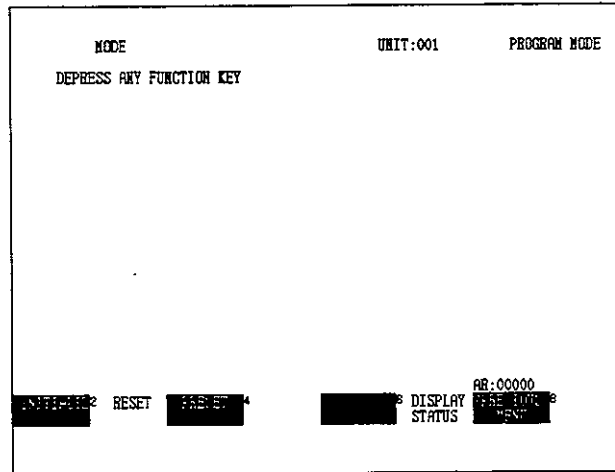

Figure 7.3
- 1) Display the Mode Screen shown in *Figure 7.3*.
1) Display the Mode Screen shown in *Figure 7.3*.